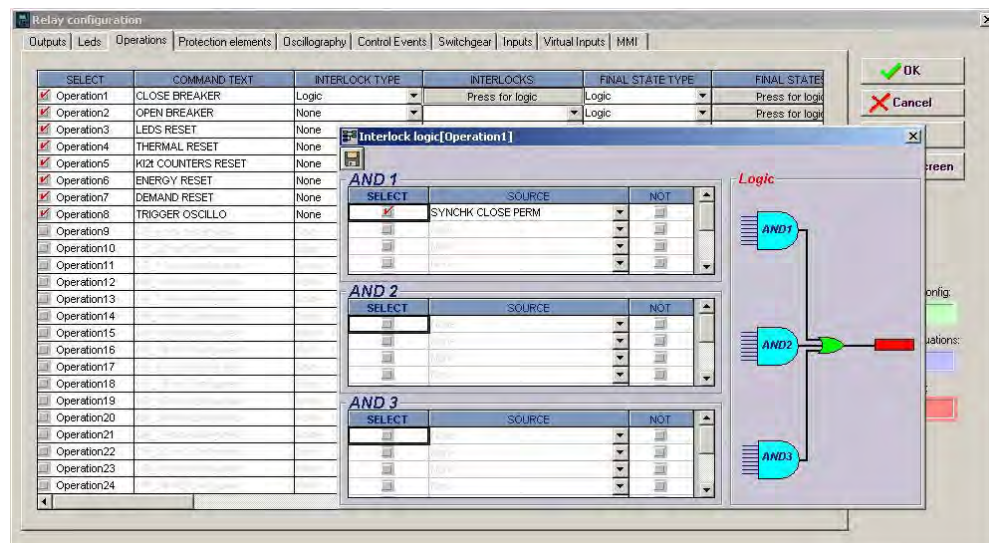

Figure 5-48: Operations and interlocks
- **Interlocks** setting define the desired interlocks. This setting is enabled selecting the “**logic**” option in “**Interlock type**”. In the “**Interlock logic**” screen we can set the interlock logic, as shown on Figure 5-48: Operations and interlocks